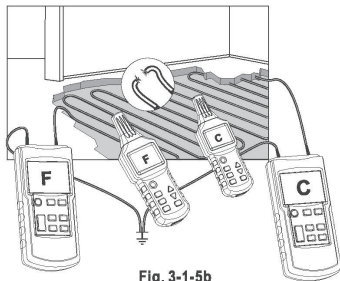

Fig. 3-1-5b
- * Connect both emitters (if two emitters are used) as shown in Fig. 3-1-5b.